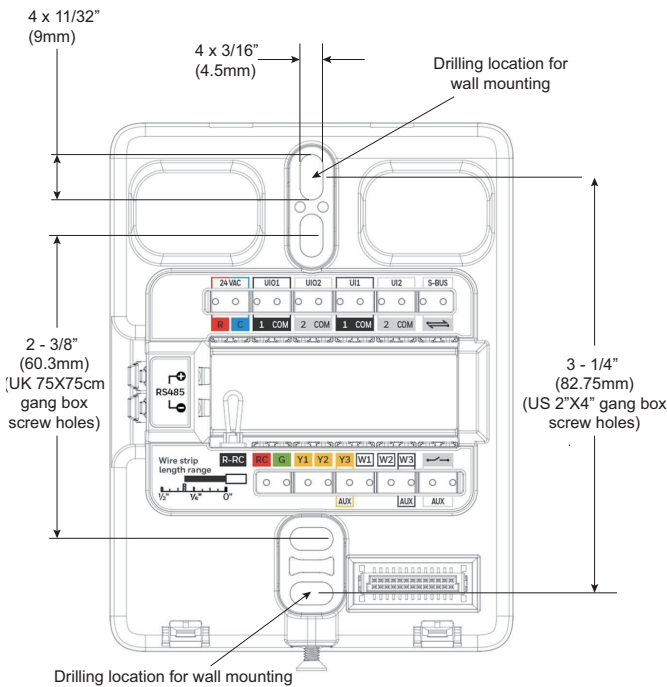

Fig. 5. Wallplate drilling locations
2. Pull the wires through the wiring opening of the wallplate, and position the wallplate along the gang box to align the mounting holes. For gang box screw holes, refer to Fig. 5.